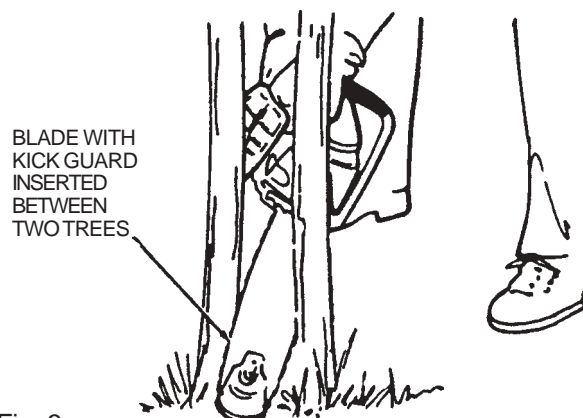

Fig. 3
3. Refer to Figures 3, 4 and 5. Each shows a “tight situation” cut which is hazardous to make without a Kick Guard. These techniques of cutting in close quarters can be applied to situations encountered when bucking or limbing as well as when felling.